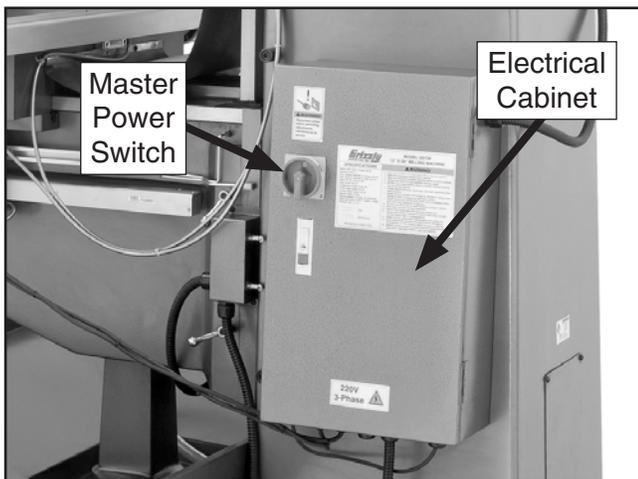

Figure 16. Master power switch location.
1. Turn master power switch **OFF** (see **Figure 16**), then press latch to open electrical cabinet door.